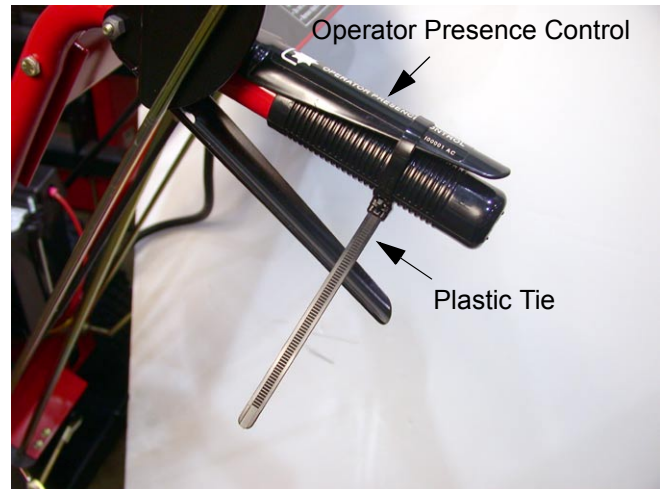

Figure 45
- 13.7. Secure the operator presence control lever to the left handlebar using a plastic tie or tape. See Figure 45.